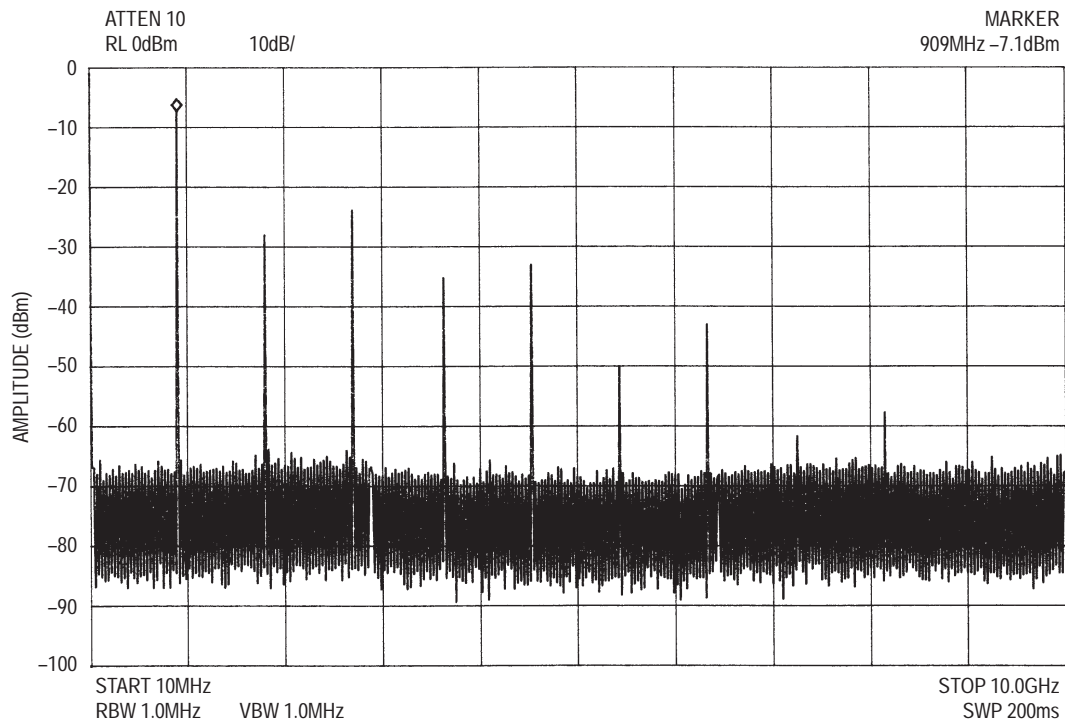

Figure 12. Typical Phase Noise Plot, 750 MHz Tank
3. See Figure 12, 750 MHz tank.